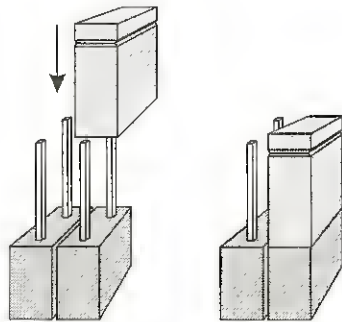

Figure 5-2: Inserting a jumper block.
- Place the jumper block(s) as shown in Figure 5-2.